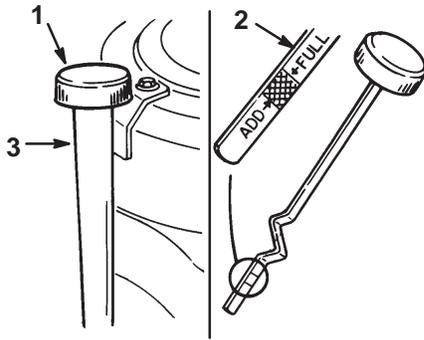

Figure 22
3. Clean around the oil dipstick (Fig. 22) so dirt cannot fall into the filler hole and damage the engine.
4. Unscrew the oil dipstick and wipe the metal end clean (Fig. 22).
5. Slide the oil dipstick fully into the filler tube, do not thread onto tube (Fig. 22). Pull the dipstick out and look at the metal end. If oil level is low, slowly pour only enough oil into the filler tube to raise the level to the full mark.
7. Slowly pour approximately 80% of the specified amount of oil into the filler tube (Fig. 22). Now check the oil level; refer to Checking Oil Level, page 23. Slowly add additional oil to bring to full mark on dipstick.